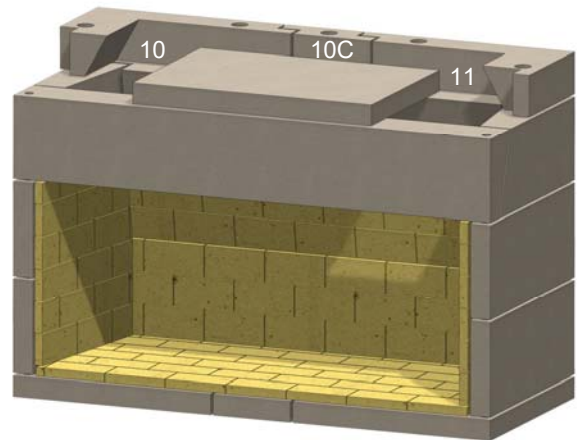

Figure 19. Lower Rear Throat
J. Install lower level of rear throat pieces (Items 10, 10C and 11), checking them for level. See Figure 19.